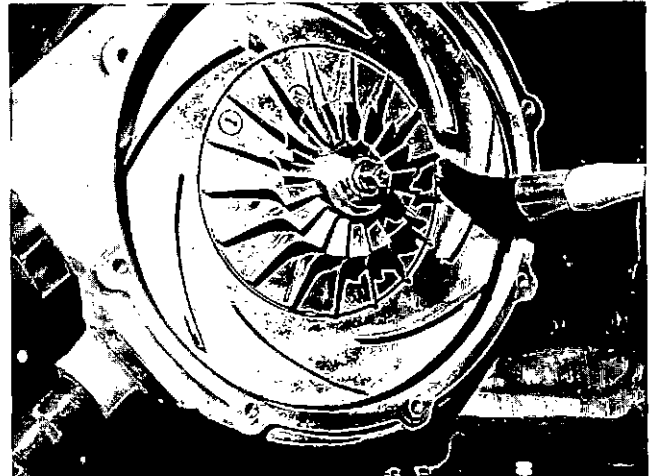

Fig. 5-41. Cleaning T-590 turbocharger
2. Loosen and remove capscrews, lockwashers and plain washers from plate. Remove front plate to expose compressor wheel and diffuser. Fig. 5-41.